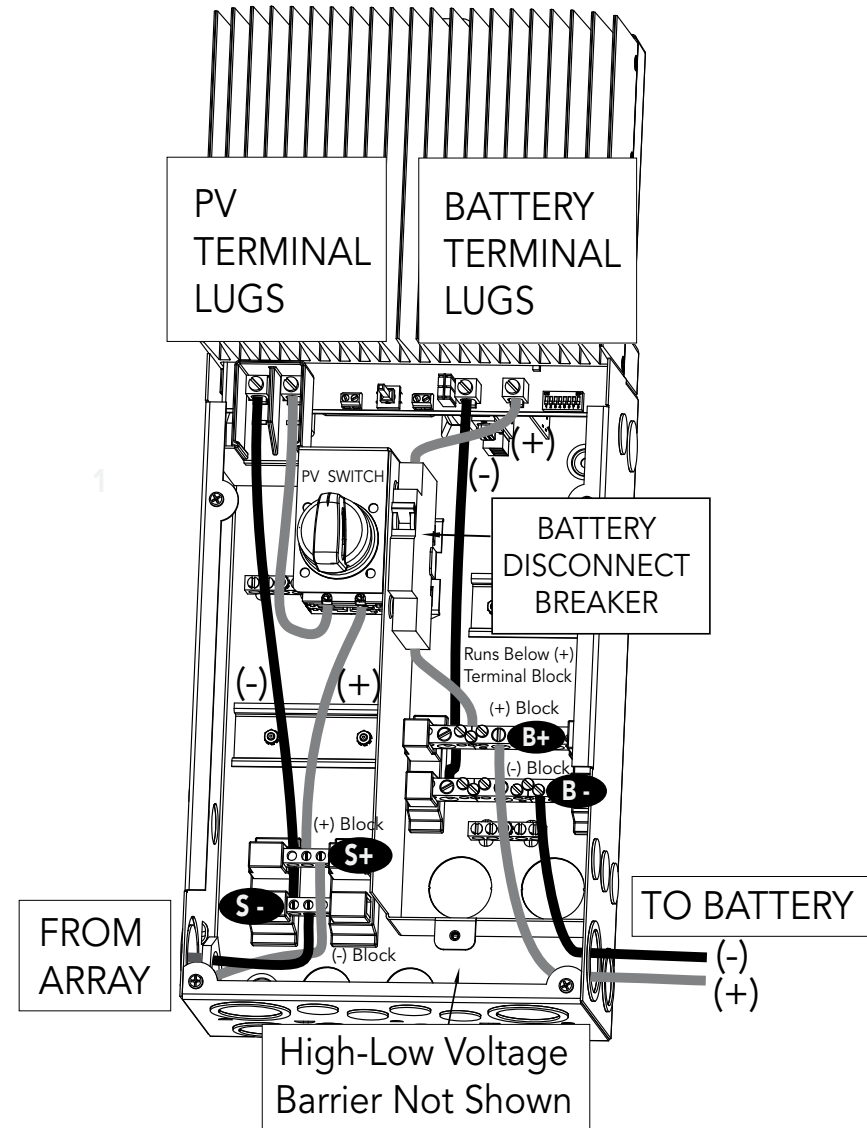

Figure 3-15. Power Terminal Locations
Connect the four (4) power conductors shown in Figure 3-15 as described in the following steps:
2. Pull solar and battery wires into the Disconnect Box (DB). The Remote Temperature Sensor (RTS) and Battery Sense wires can be routed inside conduit with the battery power conductors, if required. Unless rated for 600V, the RTS and Battery Sense wires CANNOT be routed in the same conduit with the high voltage solar conductors. It is easier to pull the RTS and BVS wires before the power cables.